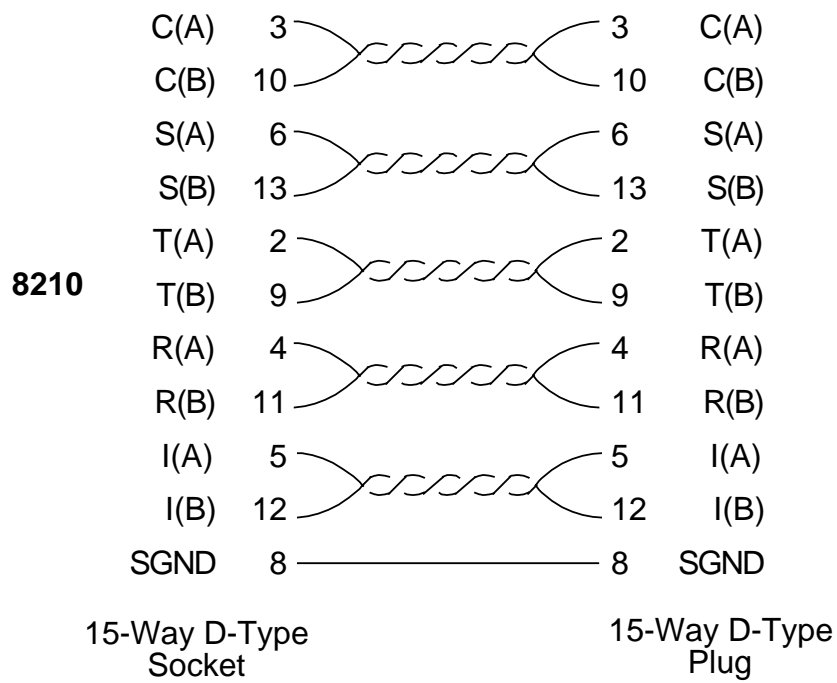

Figure B-7 Composite to X.21 DCE Cable
- (7) 8210 Card to X.21 DCE use cable X890-401011, Figure B-7.